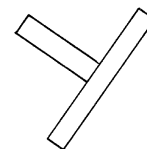

Figure 2.7
2. Position the metal so that the joint to be welded is in the flat position. (See Figure 2.7)